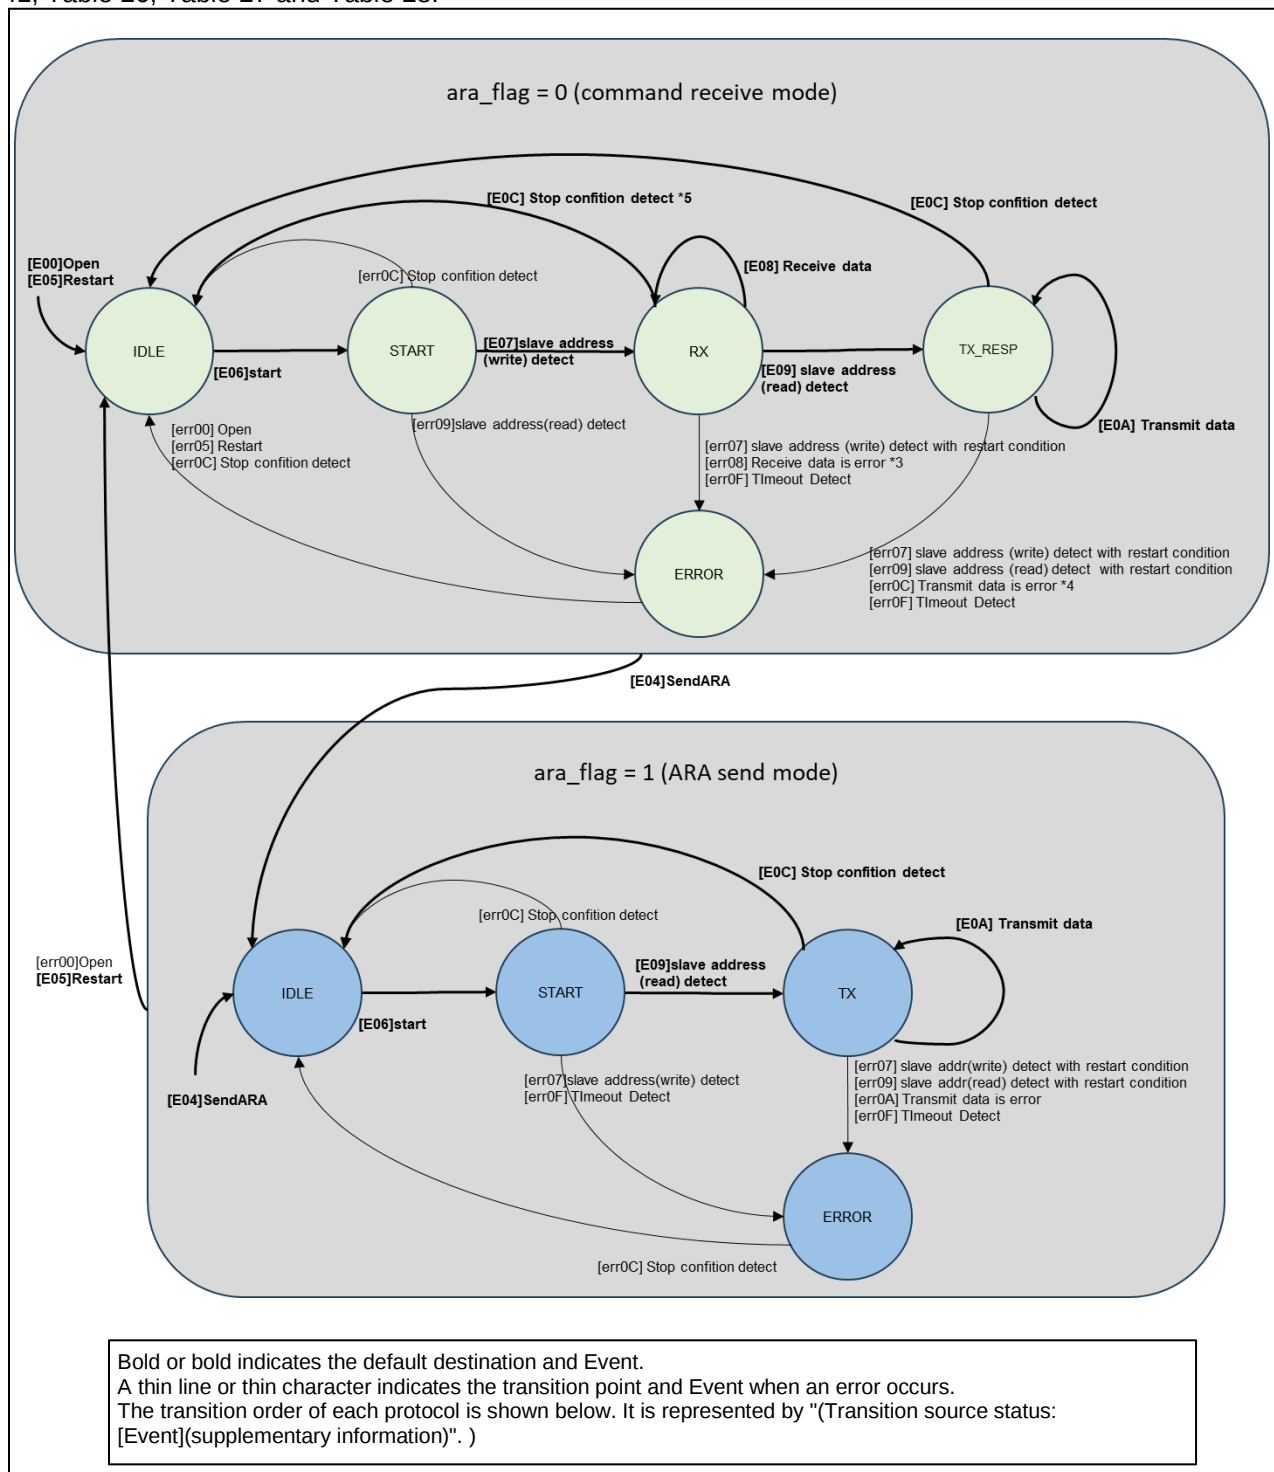
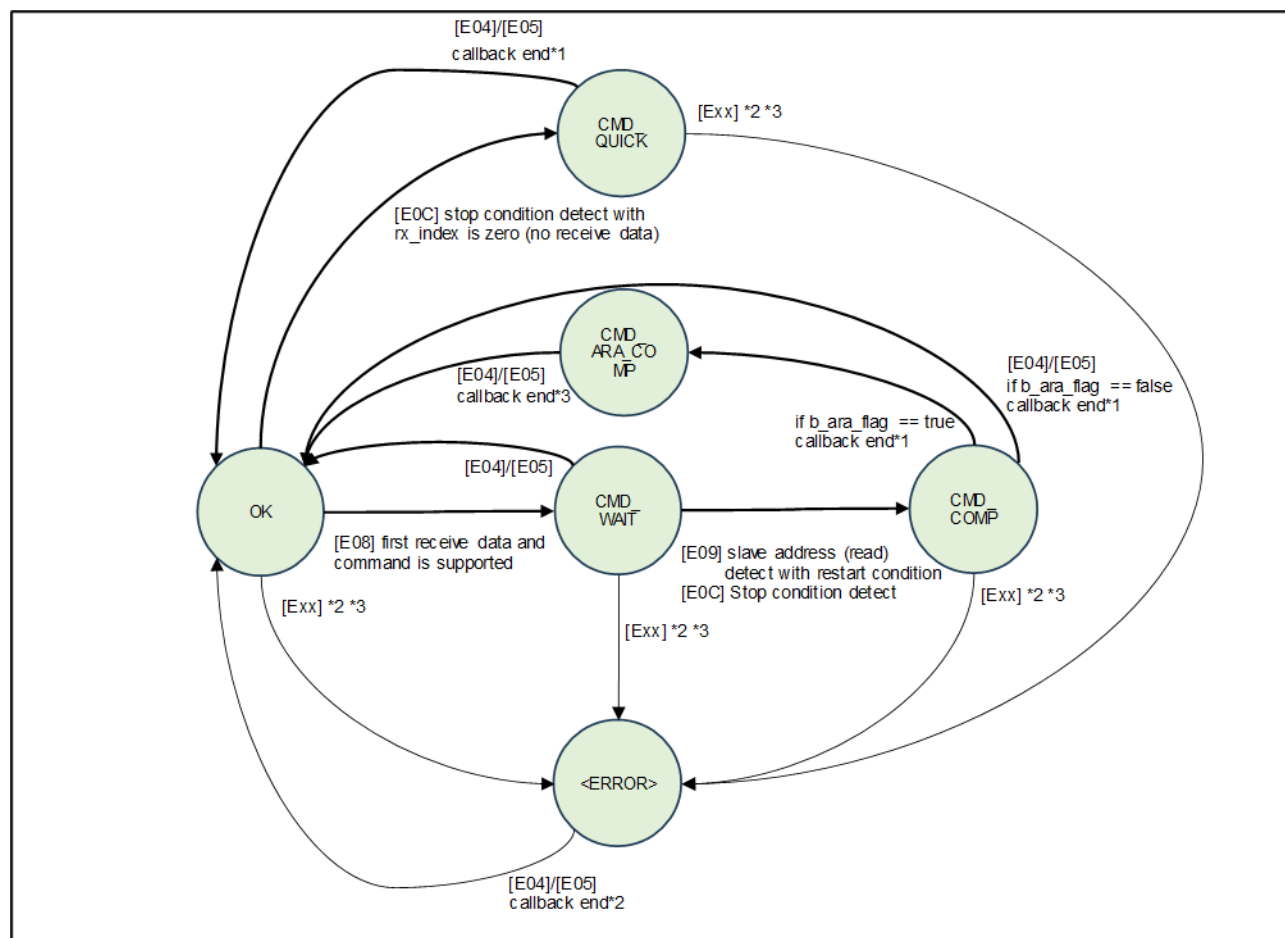

Figure 38 PMBus Slave Middleware Application Layer status transitions diagram
Figure 40 PMBus Slave Middleware Application Layer status transitions diagram for PACKET RESULT
Middleware Application Layer status transitions of PMBus Slave are waiting in IDLE status in preparation for reception from PMBus Master. When a command is subsequently sent from PMBus Master, the status of transmission, reception, and error handling is managed in accordance with the command code. Application Layer status transitions of the following PMBus Slave are shown in Figure 38, Figure 39, Figure 40, Figure 41, Table 26, Table 27 and Table 28.
- Light green indicates state transitions when ara_flag=0 in Figure 38.
- Light blue indicates state transitions when ara_flag=1 in Figure 38.
This table shows the state transition table for PACKET_RESULT corresponding to Figure 40.
- Light green indicates state transitions in Figure 40.